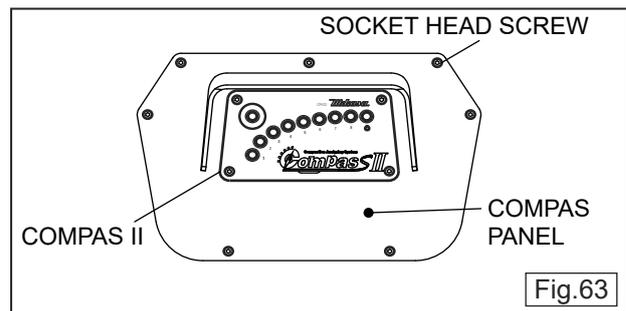

Fig.63
- 1 If the COMPAS II is installed, remove the panel with COMPAS II by removing the hexagon socket button head screw (M6). (Fig.63)